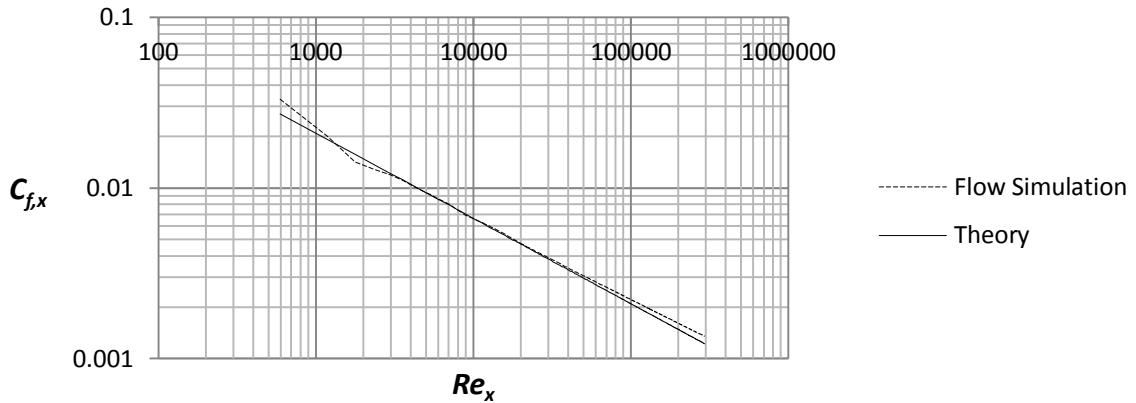

Figure 2.26 Local friction coefficient as a function of the Reynolds number
Place the file “xy-plot figure 2.26” into the **Local Disk (C:)/Program Files /SolidWorks Corp/SolidWorks Flow Simulation/lang/english/template/XY-Plots** folder to make it available in the **Template** list. Repeat step 24 but this time choose the sketch **x = 0 – 0.9 m**, uncheck the box for **Velocity (X)** and check the box for **Shear Stress**. Rename the xy-plot to **Local Friction Coefficient**. An Excel file will open with a graph of the local friction coefficient versus the Reynolds number compared with theoretical values for laminar boundary layer flow.
2.4 Import the file “Leading Edge of Flat Plate”. Study the air flow around the leading edge at 5 m/s free stream velocity and determine the laminar velocity boundary layer at different locations on the upper side of the leading edge and compare with the Blasius solution. Also, compare the local friction coefficient with figure 2.26. Use different values of the initial mesh to see how it affects the results.